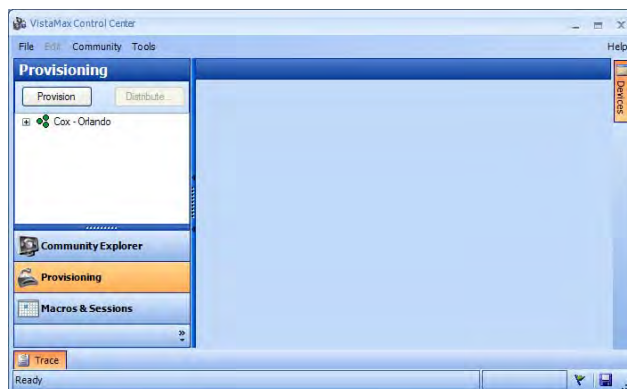

Figure 4-14. Provisioning Window
1. Click **Provisioning** on the left navigation pane, below the **Community Explorer** pane. The **Provisioning** window appears (Figure 4-14).
This pane also allows you to set each signal as a mono signal or as part of a stereo or a surround signal. When you select a **Link w/Next** check box in the signal row, that signal is linked to the following signal. You would normally link an odd number signal (the left channel) with the following even number signal (the right channel). Since the right channel of a stereo signal is hidden, the **Hidden** check box for that signal is normally selected. When a signal is part of a discrete 5.1 surround signal, there are six signals "linked together" with five **Link w/Next** check boxes in a row selected and five **Hidden** checkboxes selected (Figure 4-14).